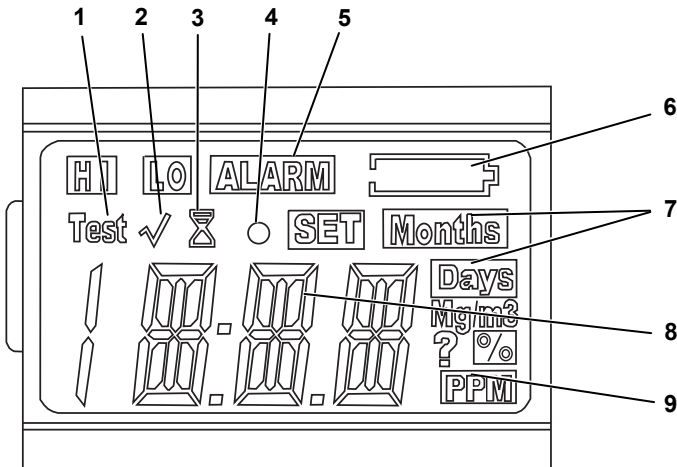

Fig. 2 Display
- as long as the battery warning indicator (Pos. 6 in Fig. 2) does not display **and**